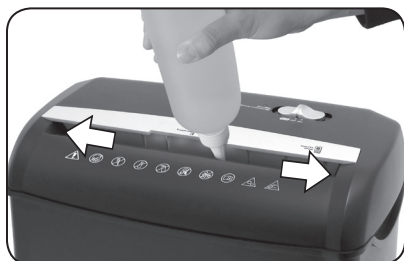

FIGURE 3
- Oil the shredder blades every month with basic vegetable, cooking oil or shredder oil. Follow oiling procedure below (FIGURE 3). It helps to keep the shredder blades operating well over many years of use.